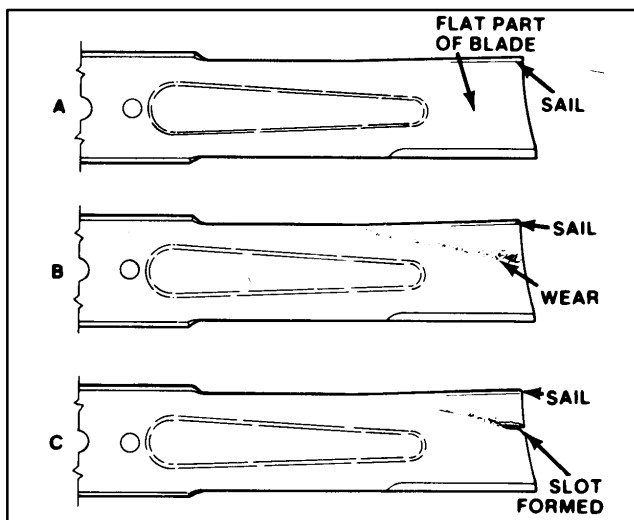

Figure 25
4. Examine cutting ends of the blade carefully, especially where the flat and curved parts of the blade meet (Fig. 25-A). Since sand and abrasive material can wear away the metal that connects the flat and curved parts of the blade, check the blade before using the machine. If wear is noticed (Fig. 25-B), replace the blade: refer to Removing Cutter Blade.
If blade is allowed to wear, a slot will form between the sail and flat part of the blade (Fig. 25-C). Eventually a piece of the blade may break off and be thrown from under the housing, possibly resulting in serious injury to yourself or bystander.